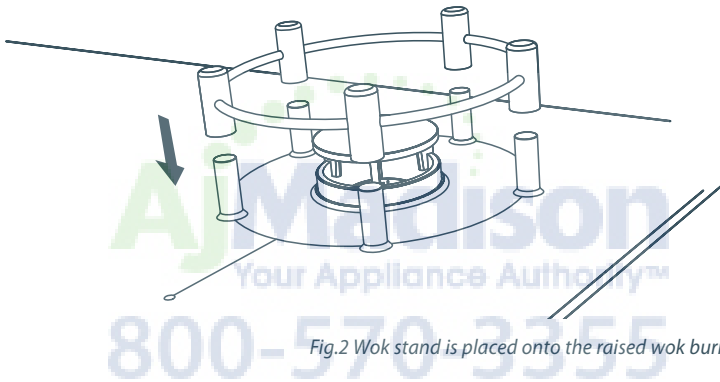

Fig.2 Wok stand is placed onto the raised wok burner pan supports
- Make sure the wok stand is fitted correctly over the raised pan supports. (see Fig.2)